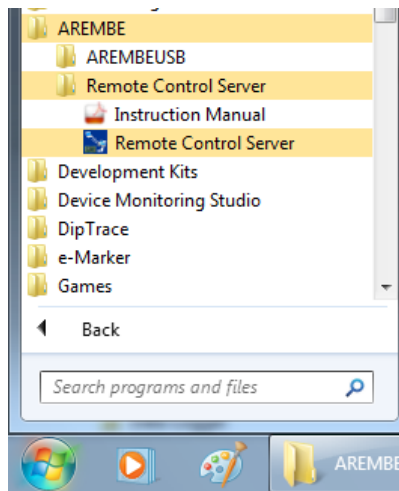
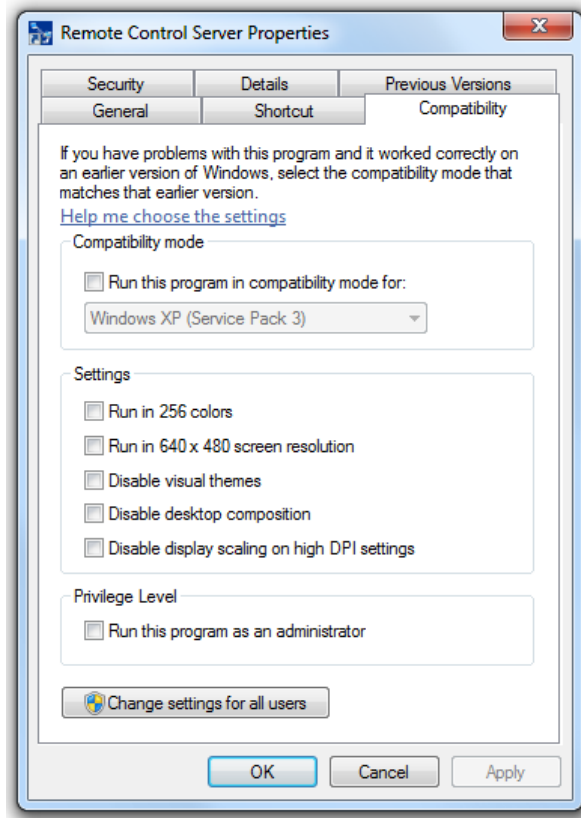

Figure 2-3, Start Menu Shortcuts to Program and Manual
Figure 2-9, Properties Dialog
It also creates shortcuts to the server program and the instruction manual on the user's Start menu (figure 2-3) to give quicker access to the program.
- 2) Start the AREMBEUSB Remote Control Server by clicking on the Remote Control Server item in the AREMBE\Remote Control Server folder on the Start Menu (figure 2-3).
- 1) Start the AREMBEUSB Remote Control Server by clicking on the Remote Control Server item in the AREMBE\Remote Control Server folder on the Start Menu (figure 2-3).
On machines running Vista and Windows 7 with User Account Control in operation, locate the Remote Control Server item in the AREMBE\Remote Control Server folder on the Start Menu (figure 2-3). Right click and select Properties... The Properties dialog, figure 2-9, will be shown.